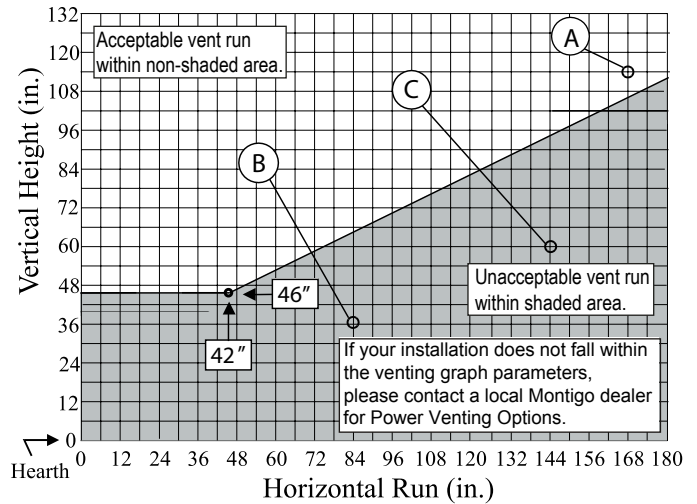

Figure 13. Top Vent Venting Graph for wall mounted terminations.
- Once the proposed venting layout has been determined refer to **Figure 13 or 14** to ensure the layout is acceptable.
- Venting runs *must* fall within the limits set by the venting graph, see **Figure 13**.
Measure the vertical height from the fireplace hearth to the centre of the termination and the horizontal run from the fireplace flue collar to the wall flange of the termination. Plot on the Venting Graph **Figure 13** with an 'X'. If the 'X' falls on or above the top boundary of the shaded area, the installation is acceptable.
Figure 13a. Top Vented, wall mounted installation with one 90° bend. The vent run must comply with Venting Graph for Top vent, wall mounted terminations, Figure 13.